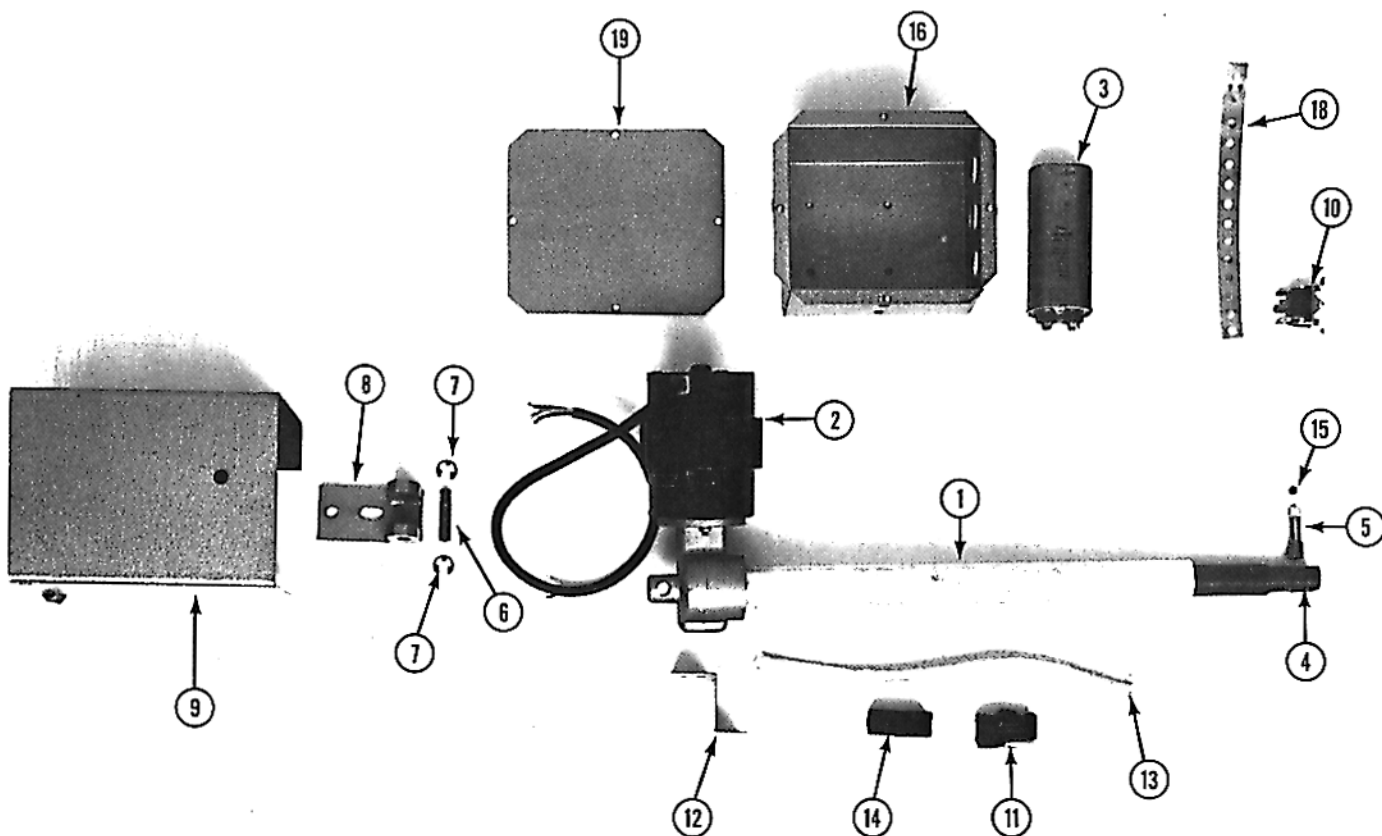

FIGURE 8 POWER LIFT PARTS
9. Manual Lift Parts (See Figure 8)